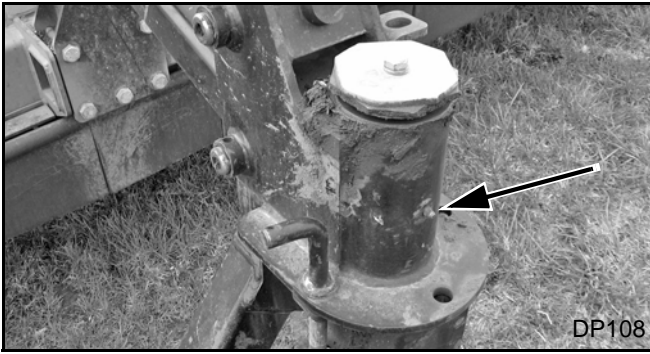

Figure 33. Wheel Caster Bearing Lubrication Points
4. Lubricate caster pivot bearings as shown in Figure 33.